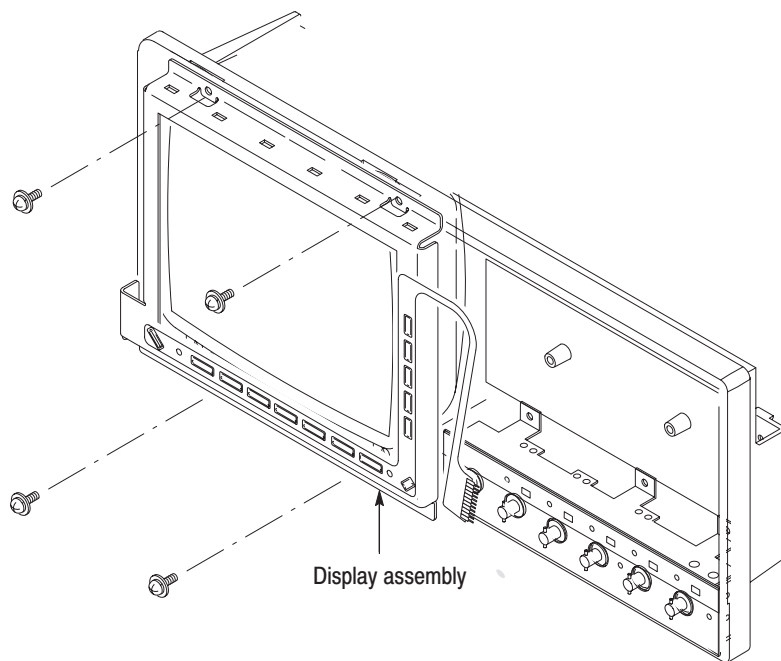

Figure 6–16: Display assembly removal
1. Locate the modules to be removed (see Figure 6–3 on page 6–13).
3. Orient the waveform generator so that its bottom is down on the work surface and its front panel is facing you (see Figure 6–16).
1. Locate the Power Supply (see Figure 6–3 on page 6–13).
3. To remove the low-voltage power supply, unplug four power cables from J3 on the A10 Connector board and J1, J2 and, J4 on the A50 Sequence board. See Figure 6–17.
3. To disconnect the *A10 Connector Board*, disconnect the following cables and connectors. See Figure 6–18 as a guide.
1. Locate the modules to be removed (see Figure 6–4 on page 6–14).
3. Remove the CPU unit using Figure 6–19 as a guide while doing the following substeps.
5. Remove the rear chassis using Figure 6–22 as a guide when doing the following substeps: